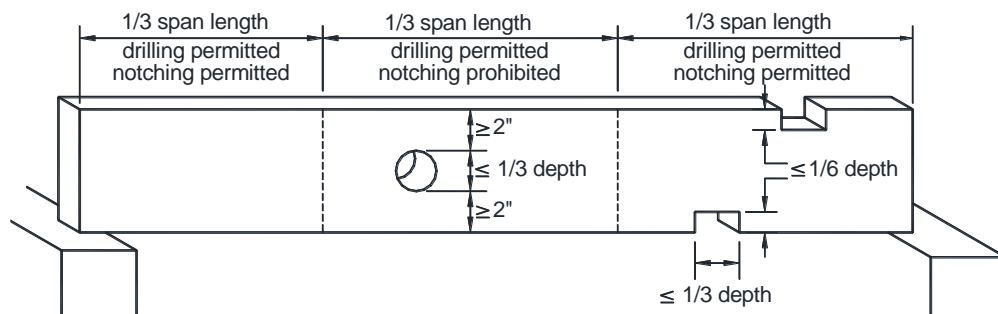

FIGURE 8: DRILLING AND NOTCHING JOISTS
- Drilling and notching 2x lumber shall be in conformance with FIGURE 8. Cantilevered (overhanging) joists cannot be notched.